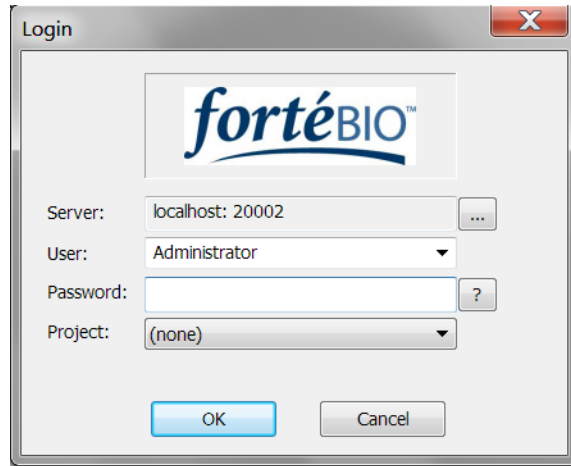

Figure B-26: Login Dialog Box with Server, User, and Project Settings Configured
3. Select **Administrator** from the **User** drop-down list (Figure B-26).